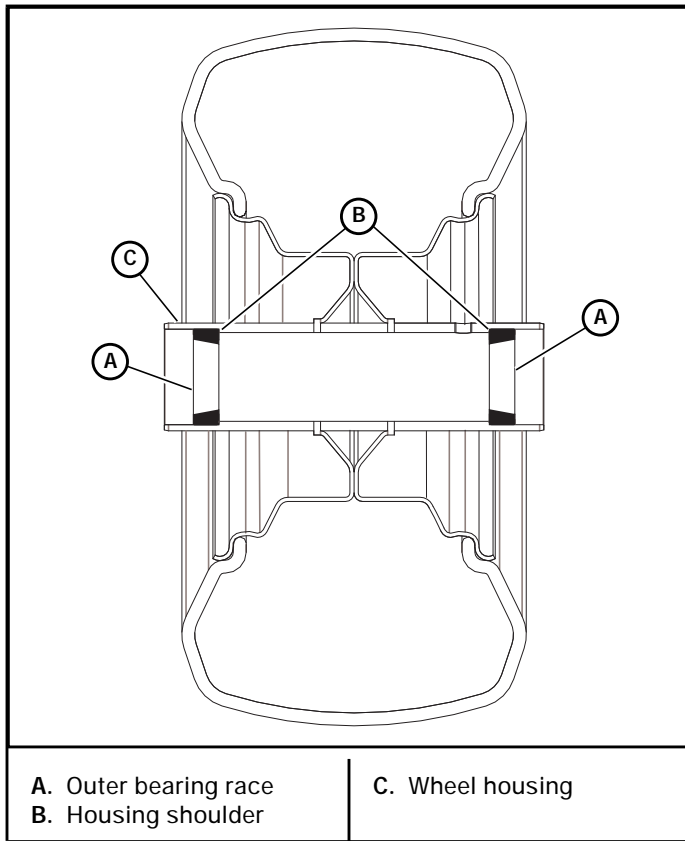

Figure 4-20
1. Press the new outer bearing races into the wheel housing until they are fully seated against the housing shoulder. Figure 4-20